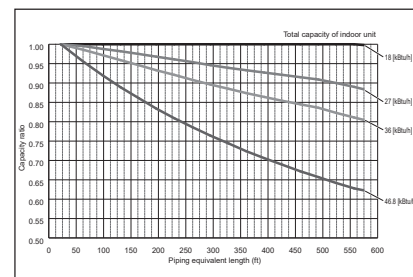

Figure 3 Correction of refrigerant piping length
- Piping Length Correction (250 ft)                      0.93 (Refer to Figure 3)